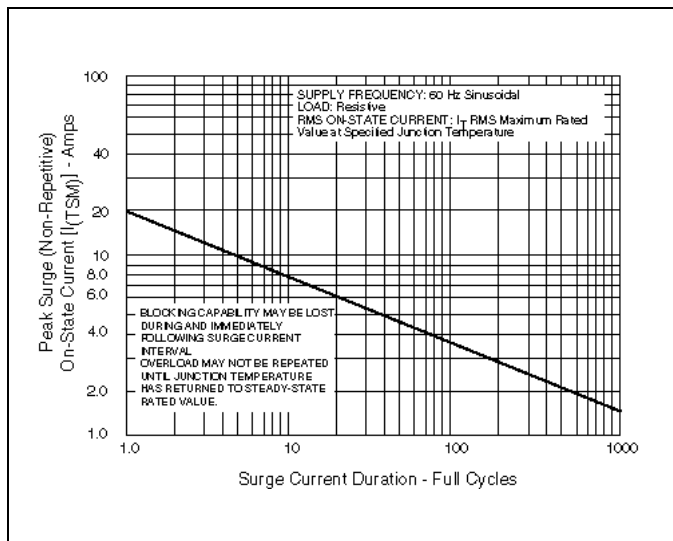

Figure 1 – Peak Surge Current vs Surge Current Duration
- See Figure 1 for more than one full cycle rating.